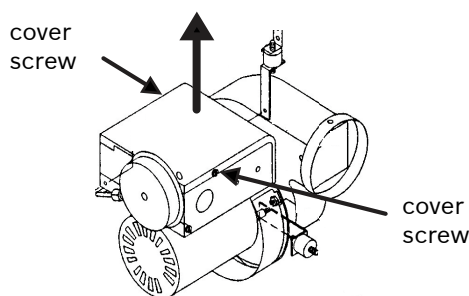

Fig. 11A Accessing the time delay relay
4. To access the time delay relay, unplug powervent and remove the electrical box cover on power vent motor. (Fig. 11A)